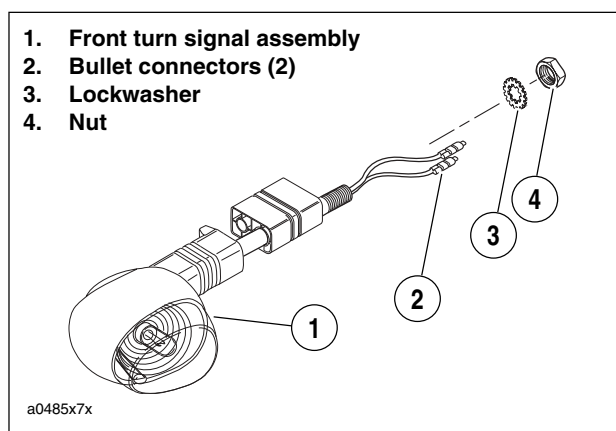

Figure 7-67. Front Turn Signals
3. See Figure 7-67. Remove nut and lock washer.
1. See Figure 7-67. Install turn signal with lock washer and nut. Tighten nut to 25-28 **in-lbs** (2.8-3.2 Nm).